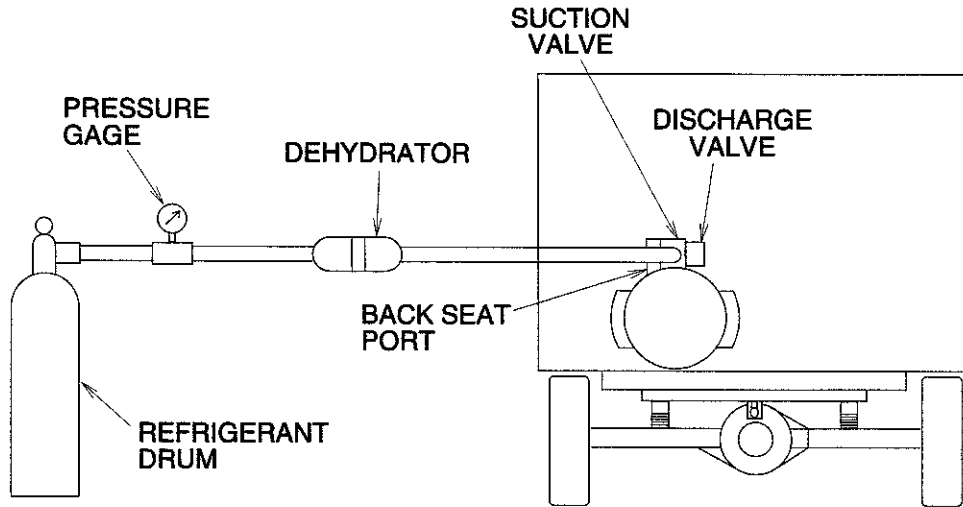

Figure 5-4. Charging Refrigerant System with Gas
5-28. ADDING SMALL QUANTITIES OF REFRIGERANT. To fully recharge the system, refer to para 5-29. However, if the system has previously been charged and is free of leaks but the refrigerant sightglass shows bubbles or is only partially filled with liquid, there is insufficient cooling, and suction pressure is low, proceed as follows. Check that bypass valve (V3) and head pressure regulator (V6) are not bypassing, and that temperature set point is below ambient temperature by more than one degree fahrenheit. (Refer to fig. 5-4. See WARNING under para 5-17. See para 5-10 for safety precautions.)
c. Connect the charging line from the top of the refrigerant drum to the suction valve back seat (counterclockwise) port fitting as shown in fig. 5-4. As the refrigerant is to be charged into the system as a gas, do not use drum liquid charging line. Connect the charging line to the port loosely and open valve on drum to purge air from the charging line. Tighten charging line connection and close the drum valve. Open the compressor suction service approximately two turns.